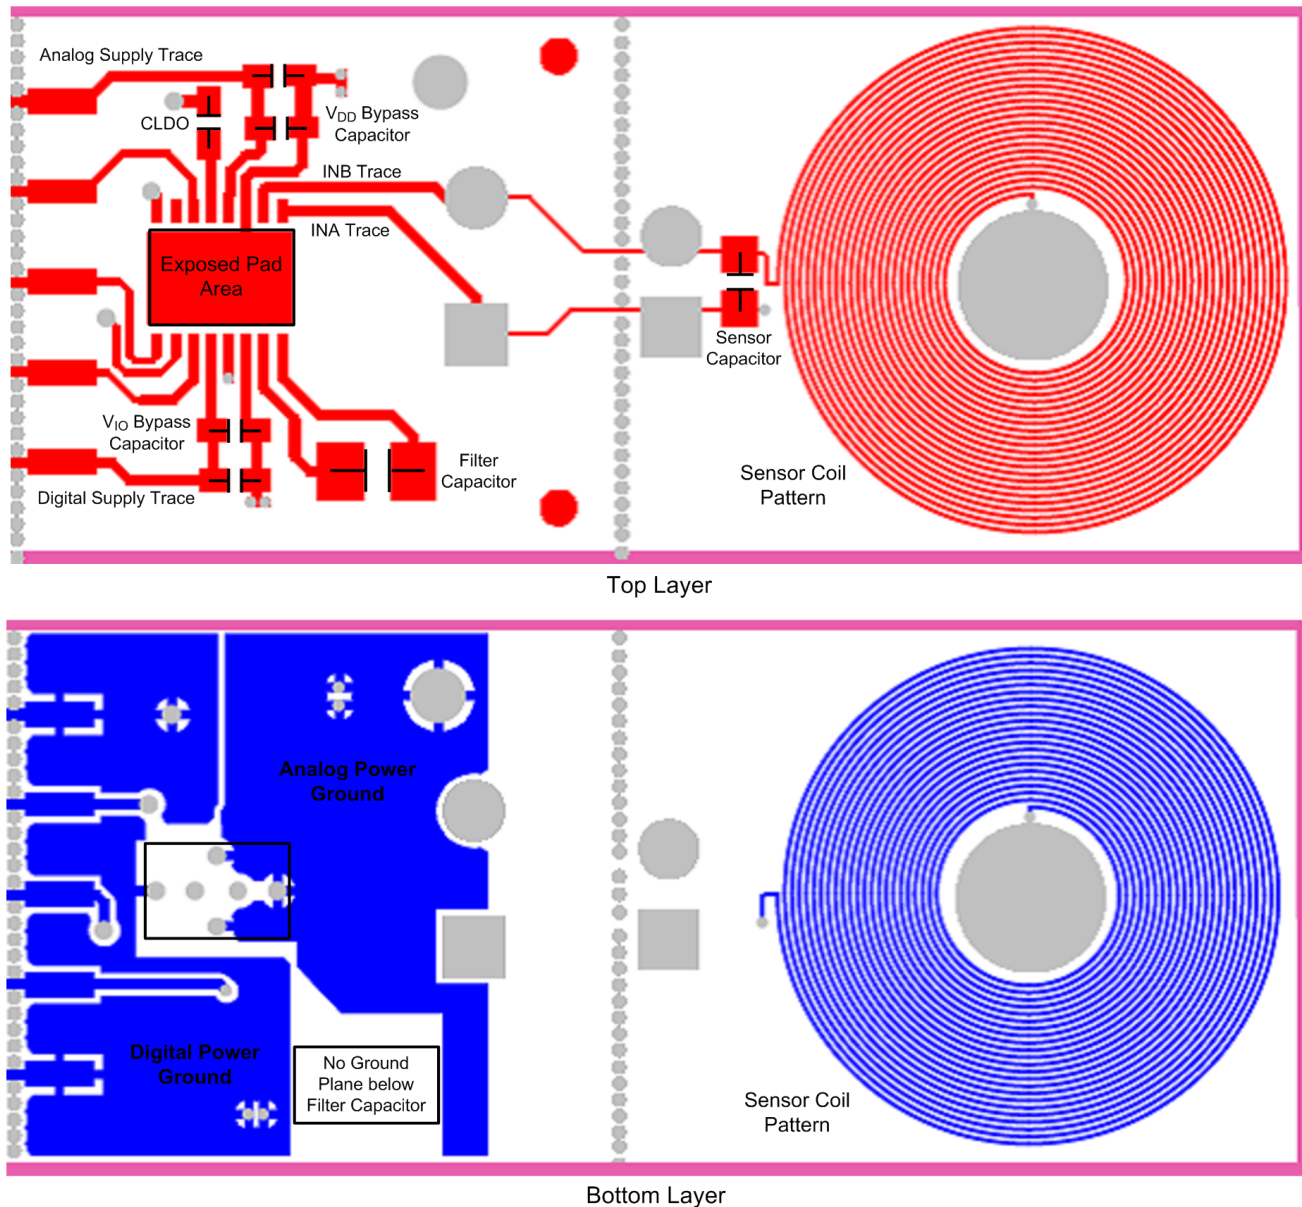

Figure 21. LDC1001 Board Layout
- The optimum placement is closest to the VDD/VIO and GND/DGND pins of the device. Take care to minimize the loop area formed by the bypass capacitor connection, the VDD/VIO pin, and the GND/DGND pin of the IC. See Figure 21 for a PCB layout example.
- Use separate ground planes for the GND and DGND with a star connection. See Figure 21 for a PCB layout example.